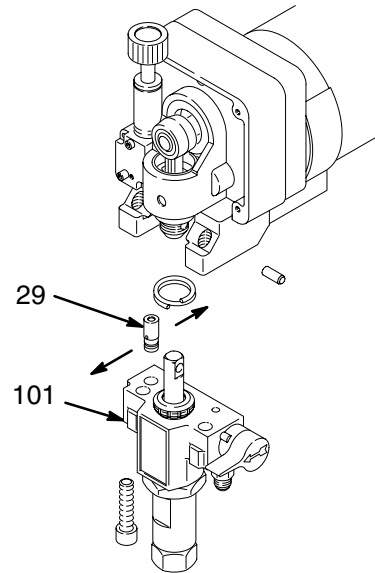

Fig. 27
**NOTE:** See Fig. 27 for this procedure.
3. Use a pull-twist motion to remove the transducer (29) from the pump manifold (101).
7. Align the holes in the transducer as shown by the arrows in Fig. 27.